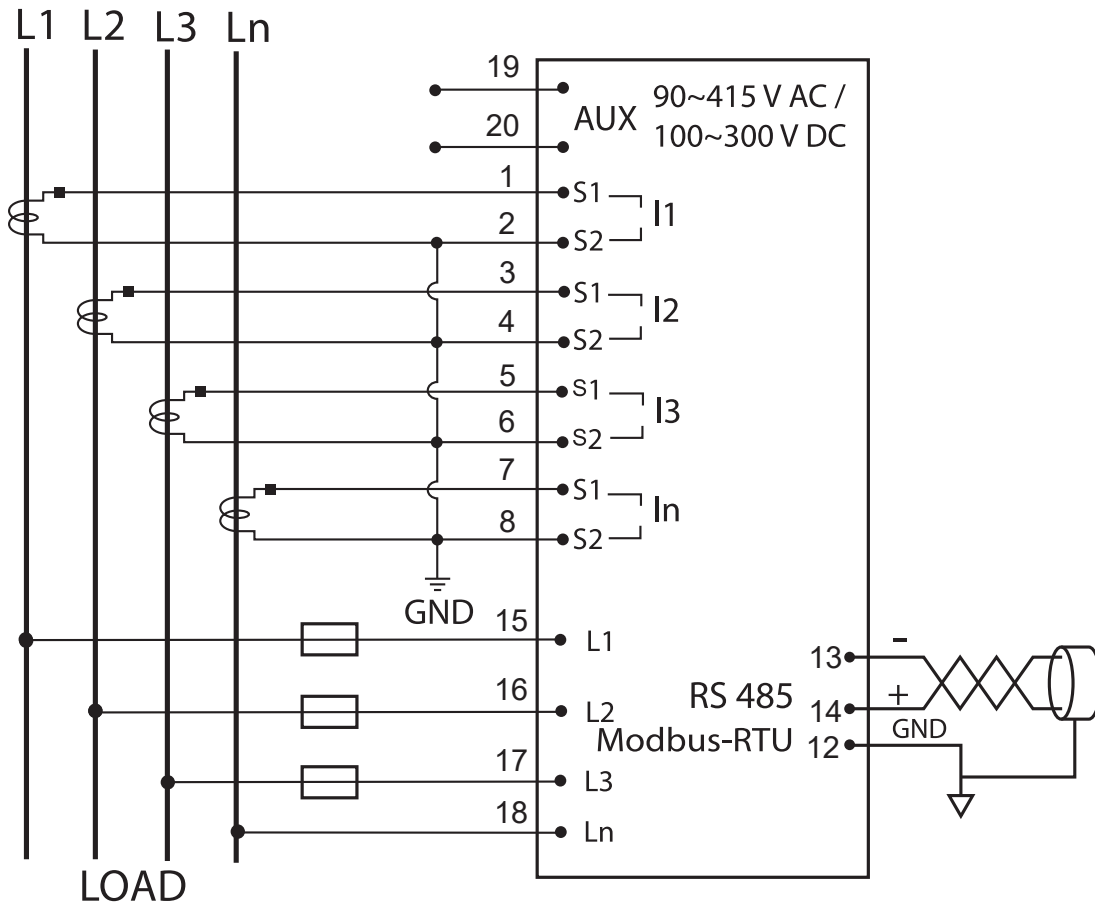

Figure 3: 3 Phase 4-Wire System with 4CTs connection, direct voltage input.
c) Connect the metering voltage input, current input, communication and auxiliary according to the wiring schemes shown in section 2.2 figure 3 to 6 on the next page.